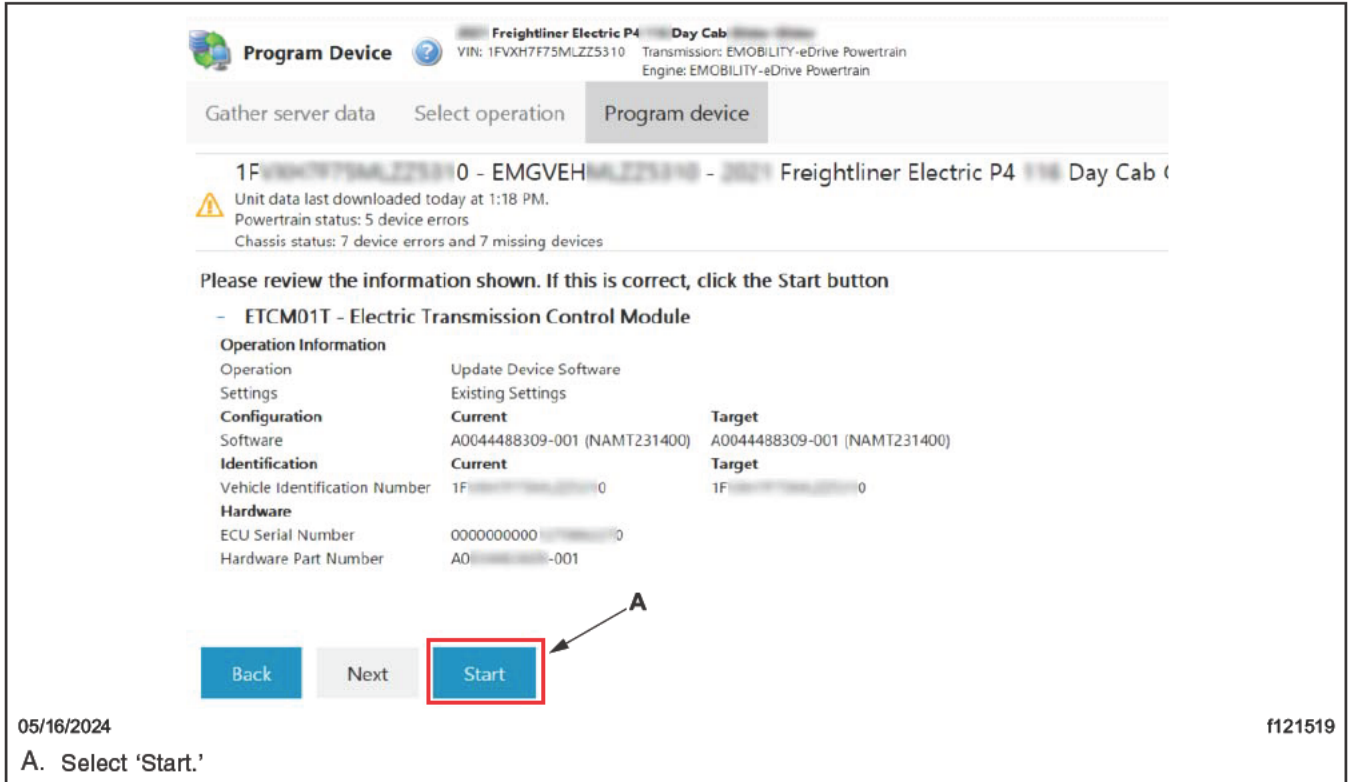

Fig. 31, Starting to Update the ETCM01T Device Software
14.4 Review the programming information, then select 'Start.' See Fig. 31.